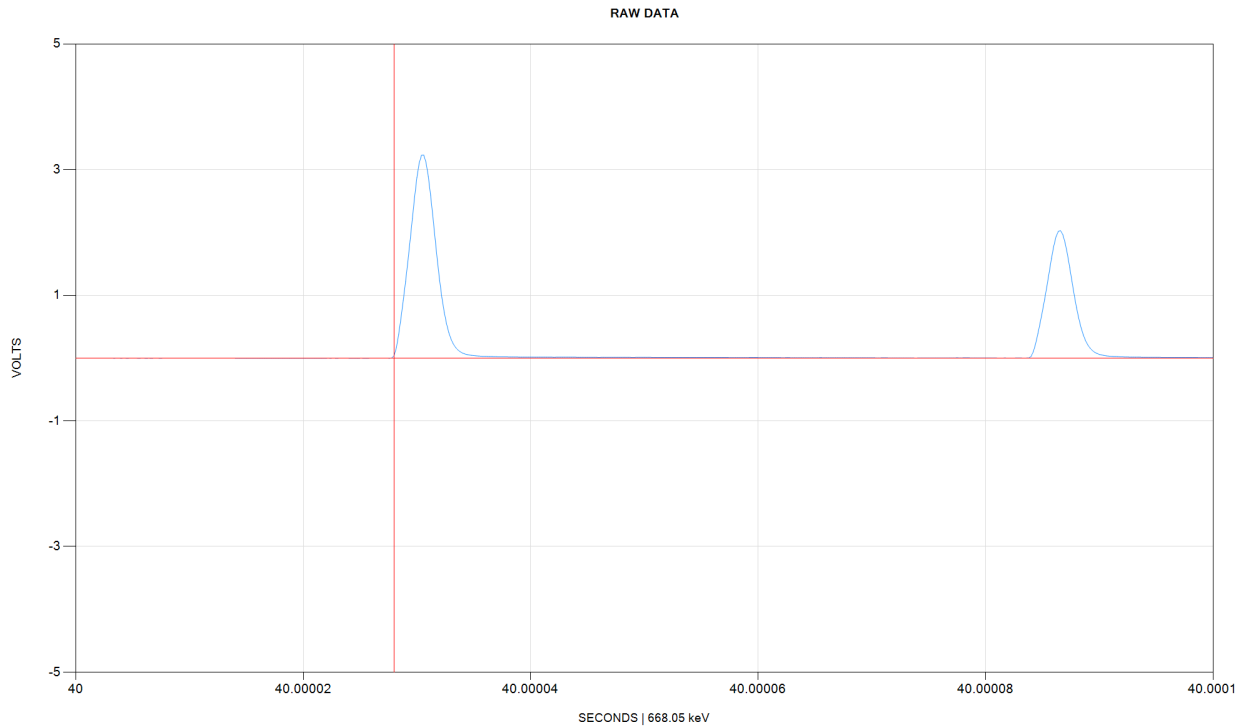

Fig. 5. Positive Gaussian pulses from Canberra 2026 shaping amplifier.
- **Triangular or Gaussian pulses** such as the output of 3rd party shaping amplifiers or pulse processors - Fig. 5;